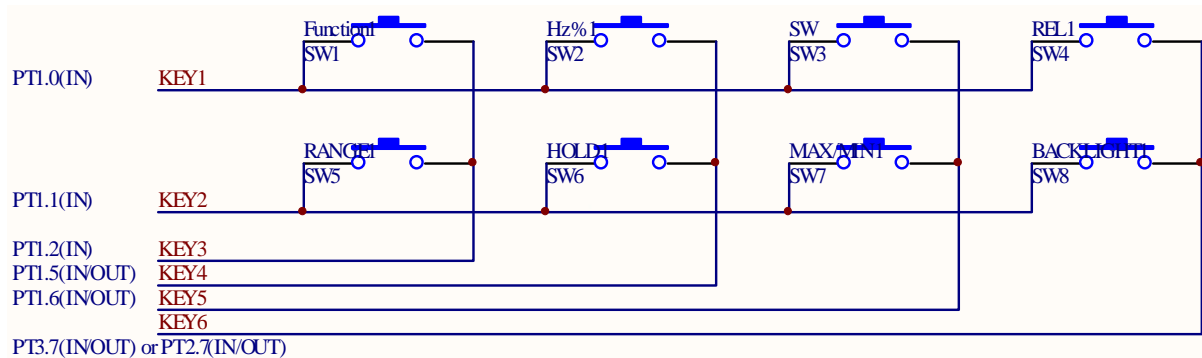

Figure 14
- ◆ SW1, SW2, SW3, SW4, SW5, SW6, SW7 & SW8 : Can use KEY1~KEY6 to carry out 8 sets key scan, as shown in Figure 14.